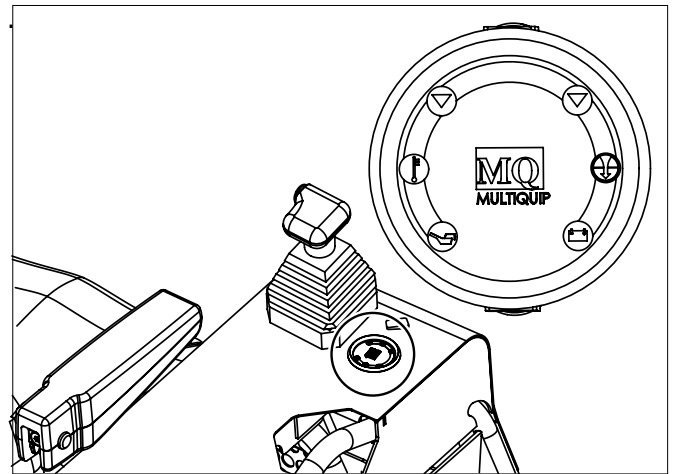

Figure 10. Oil and Charge Indicator Lights
5. Turn the ignition key clockwise to the (start) position. The **oil** and **charge** indicator lights, (Figure 10) should be on